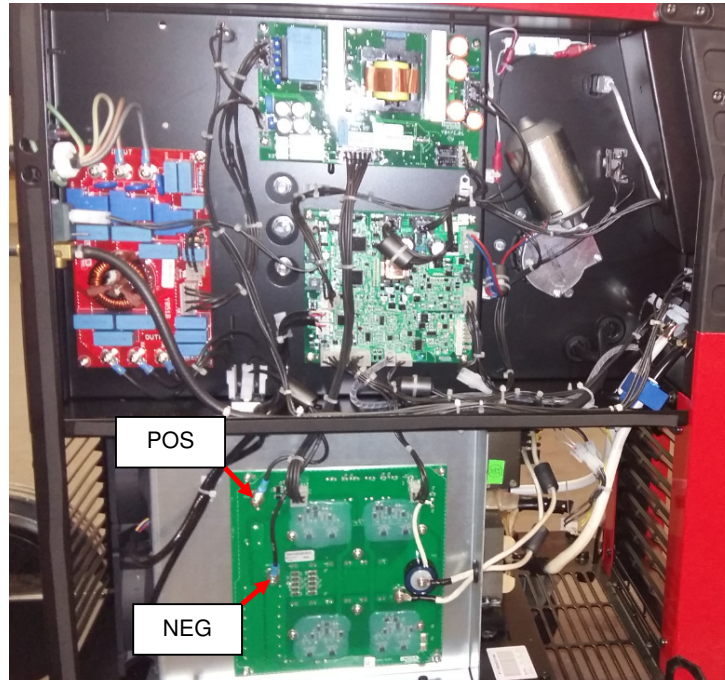

Figure 1
4. Locate the terminals **POS** and **NEG** on the Inverter board, **See Figure 1**.
8. Use electrically insulate gloves and insulated pliers. Hold the body of the resistor and connect the resistor leads across the two points POS and NEG. **See Figure 1**. Hold the resistor in place for 10 seconds. DO NOT TOUCH CAPACITOR TERMINALS WITH YOUR BARE HANDS.